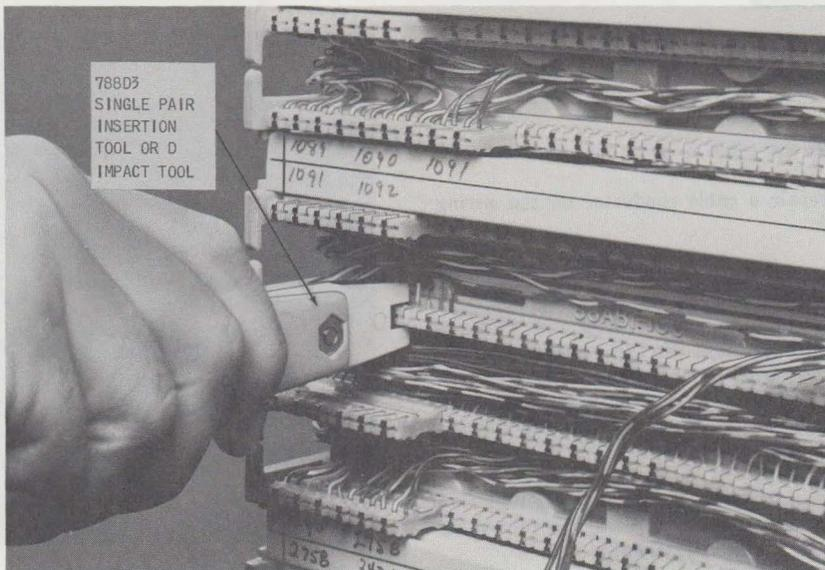

Fig. 27—Seating Conductors With Single-Pair Insertion Tool
- (b) Using the 788D3 or D impact tool, seat the conductor firmly in the bottom of the index strip (Fig. 27).
- (6) Place a new 88-type connecting block as outlined in Part 3 and replace the designation strip.
- (7) Replace the tagged cross-connect wires in their original position as outlined in Part 3 after cutting off old contact part of wire.